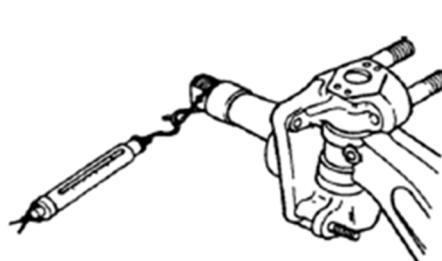

Figure 3-30.
- 7) Using a measure of the pull force at the free end of the shunt articulation (Figure 3-30).